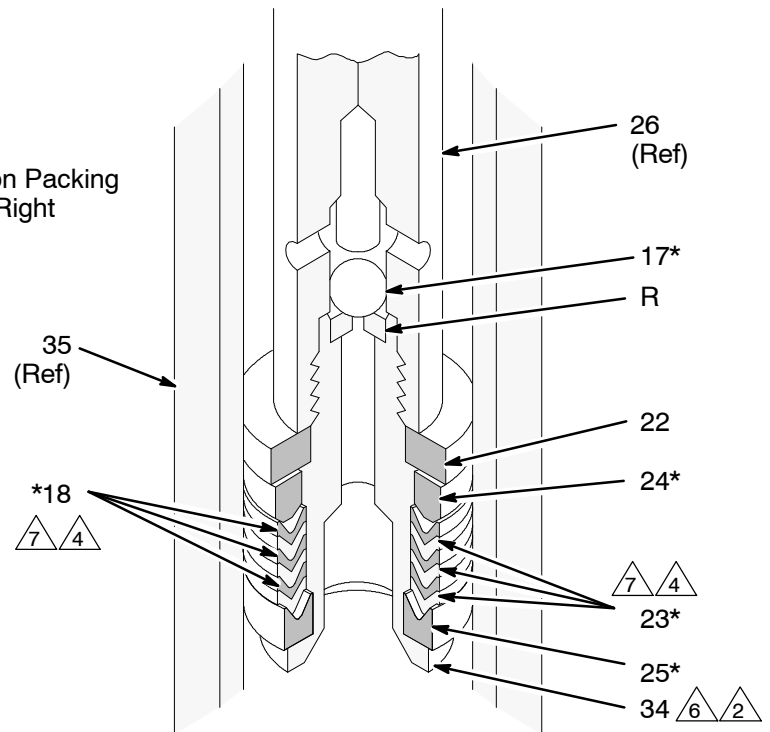

Fig. 5
When disassembling the pump, lay out all removed parts in sequence, to ease reassembly. Refer to Fig. 5.
2. Unscrew the intake valve housing (33) from the outlet housing (35). If it is difficult to remove, squirt penetrating oil around the threads and *gently* tap around the valve housing with a plastic hammer to loosen it. See Fig. 5.
3. Remove the ball stop pin (29), o-ring retainer (31), o-ring (30), guide (32) and ball (28) from the intake valve housing (33).
4. Loosen the packing nut (36). Push the displacement rod (26) down as far as possible, then pull it out the bottom of the outlet housing (35).
5. Secure the flats of the displacement rod (26) in a vise. Screw the piston stud (34) out of the rod. Remove the ball (17), retainer (22), packings (18, 23) and glands (24, 25).
6. Remove the packing nut (36), throat packings (18, 23) and glands (24, 25) from the outlet housing (35).
7. Inspect all parts for damage. Clean all parts and threads with a compatible solvent before reassembling. Inspect the polished surfaces of the displacement rod (26) and sleeve (20) for scratches, scoring or other damage, which can cause premature packing wear and leaking. To check, run a finger over the surface or hold the part up to the light at an angle. Be sure the ball seats of the piston (R) and intake valve housing (S) are not chipped or nicked. Replace any worn or damaged parts.
1. Lubricate the throat packings and install them in the outlet housing (35) one at a time as follows, *with the lips of the v-packings facing down*: the male gland (24\*), one leather v-packing (18\*), one PTFE (23\*), one leather (18\*), one PTFE (23\*), one leather (18\*), one PTFE (23\*), and the female gland (25\*). Install the packing nut (36) loosely. See the Throat Packing Detail in Fig. 5.
2. If you removed the sleeve (20), reinstall it in the outlet housing (35), making sure to replace the gasket (19\*). *Be sure the tapered end of the sleeve faces down, toward the pump intake.*
3. Lubricate the piston packings and install them onto the piston stud (34) one at a time in the following order, *with the lips of the v-packings facing up*: the female gland (25\*), one PTFE v-packing (23\*), one leather v-packing (18\*), one PTFE (23\*), one leather (18\*), one PTFE (23\*), one leather (18\*), the male gland (24\*), and the packing retainer (22). See the Piston Packing Detail in Fig. 5.
4. Use thread sealant on the piston stud (34). Install the piston ball (17\*) on the piston and screw the piston valve assembly into the displacement rod (26). Torque to 55–65 ft-lb (74–88 N.m).
5. Insert the displacement rod (26) into the bottom of the outlet housing (35), being careful not to scratch the sleeve (20). Push the rod straight up until it protrudes from the packing nut (36).
6. Install the ball (28\*), guide (32), o-ring (30\*), retainer (31), and ball stop pin (29) in the intake valve housing (33). Apply thread lubricant and screw the intake housing into the outlet housing (35). Torque to 55–65 ft-lb (74–88 N.m).